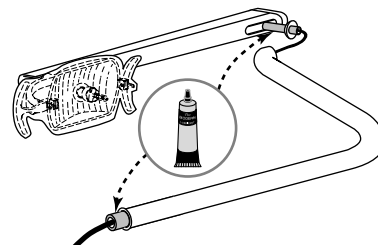

FIGURE 9
3. Apply a light coating of lubricant to the lower end of the rigid arm (see *Figure 9*).